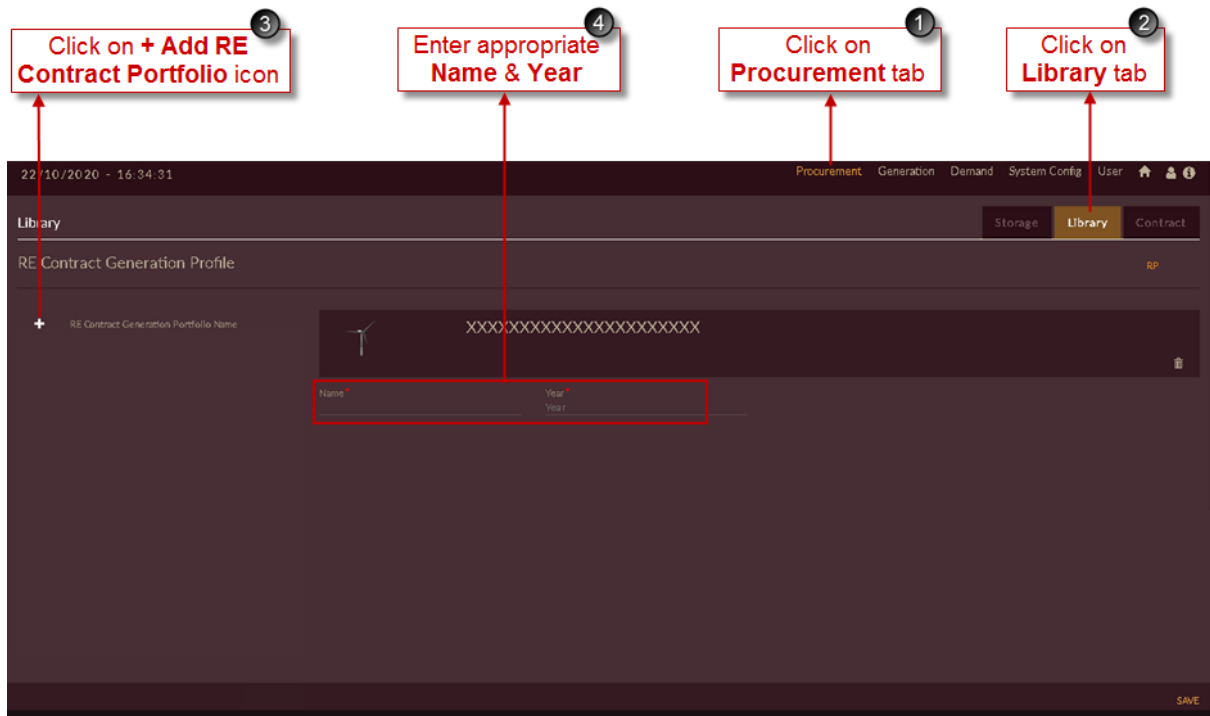

Figure 244. Steps to add RE Contract Portfolio
1. Click on **Procurement** tab. The **Procurement** tab appears as shown in Figure 244.
- Once you click on **+ Add RE Contract Portfolio** icon, you will see the blank record appeared on page as shown in Figure 244.